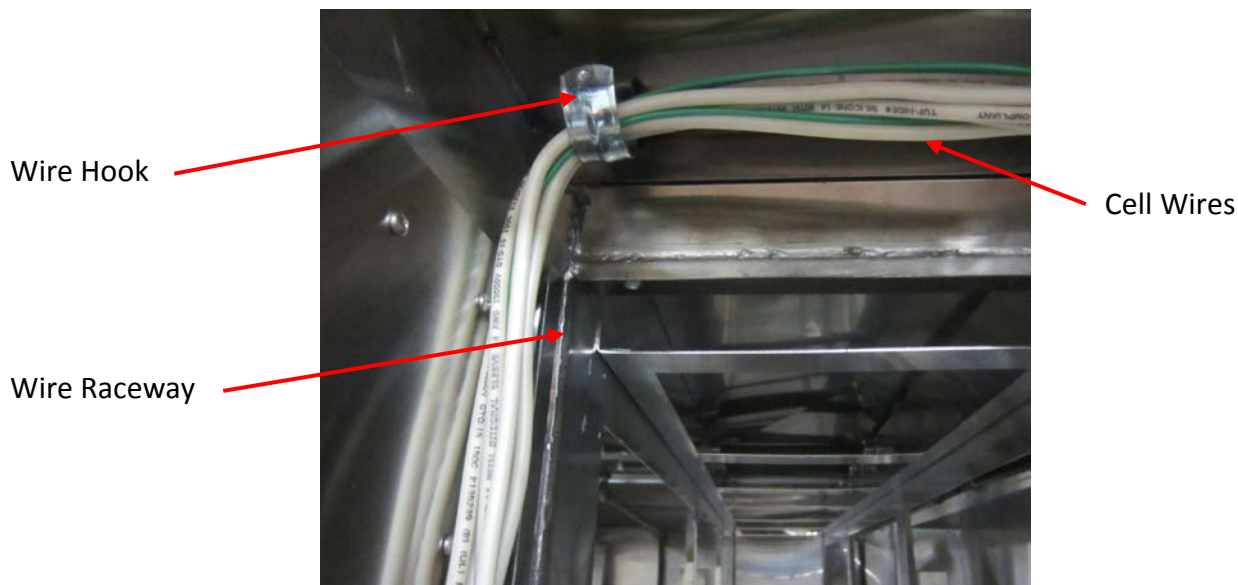

Figure 4-18-1
3. Remove the three (3) wires from the outer Cell by pulling forward from the Cell terminals. Route the wires up onto the Wire Hook at the top of the compartment and down the left side into the holding channel to keep out of the way while removing the Cells (Refer to Figure 4-18-1).